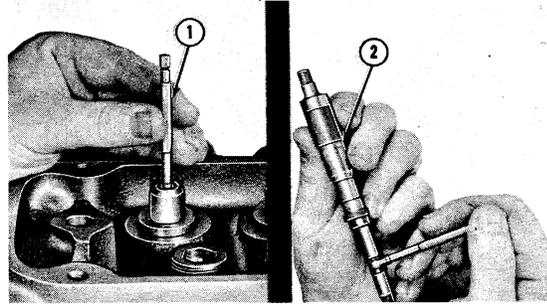

Figure 11
8. VALVE GUIDES: Measure the valve to guide clearance with a telescoping gauge and micrometer, Figure 11. If the intake clearance is not within 0.001–0.0045 in. (0.025–0.11 mm) and the exhaust within 0.002–0.0055 in. (0.05–0.14 mm), ream the valve guide to fit the next over-size valve.